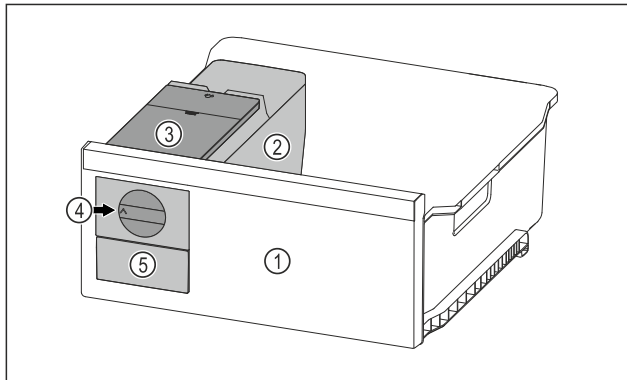

Fig. 77 Example illustration
- Turn the rotary knob Fig. 77 (4) clockwise as far as it will go.
- ▷ Ice cubes fall from the ice cube tray into the ice cube drawer *Fig. 77 (5)*.